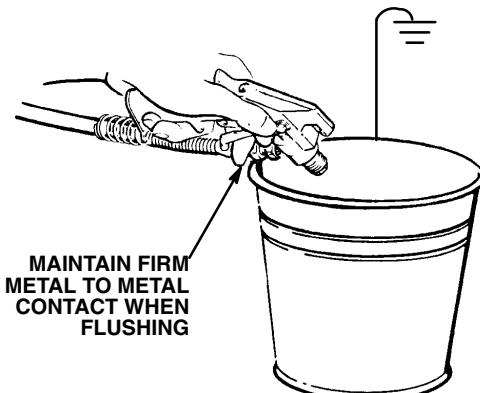

Fig 13-1
7. Hold a metal part of the gun firmly against and aimed into a metal waste container. See Fig 13-1. Squeeze the trigger and hold it open, turn the ON/OFF switch to ON, and slowly increase the pressure setting until the sprayer starts. Keep the gun triggered until all air is forced out of the system and the solvent flows freely from the gun. Release the trigger and engage the gun safety latch. This procedure helps reduce the risk of static sparking and splashing.